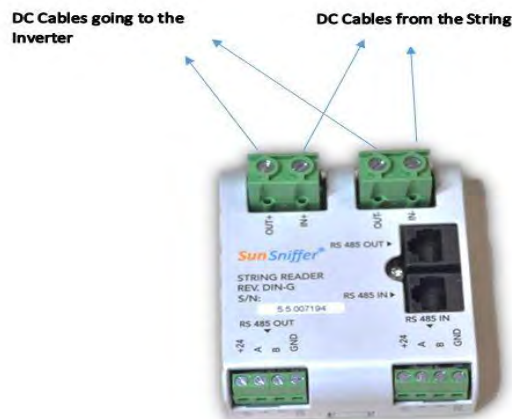

Figure 7: SunSniffer® String Reader showing the polarities of the DC cables.
4. Safely connect the power cables. Figure 7 clearly illustrates the proper connectivities from the string and to the Inverter.
- 5. The cables come from the string and go to the inverter as seen in Figure 7. Make sure that connections of the incoming DC lines to the String reader have the correct polarity.